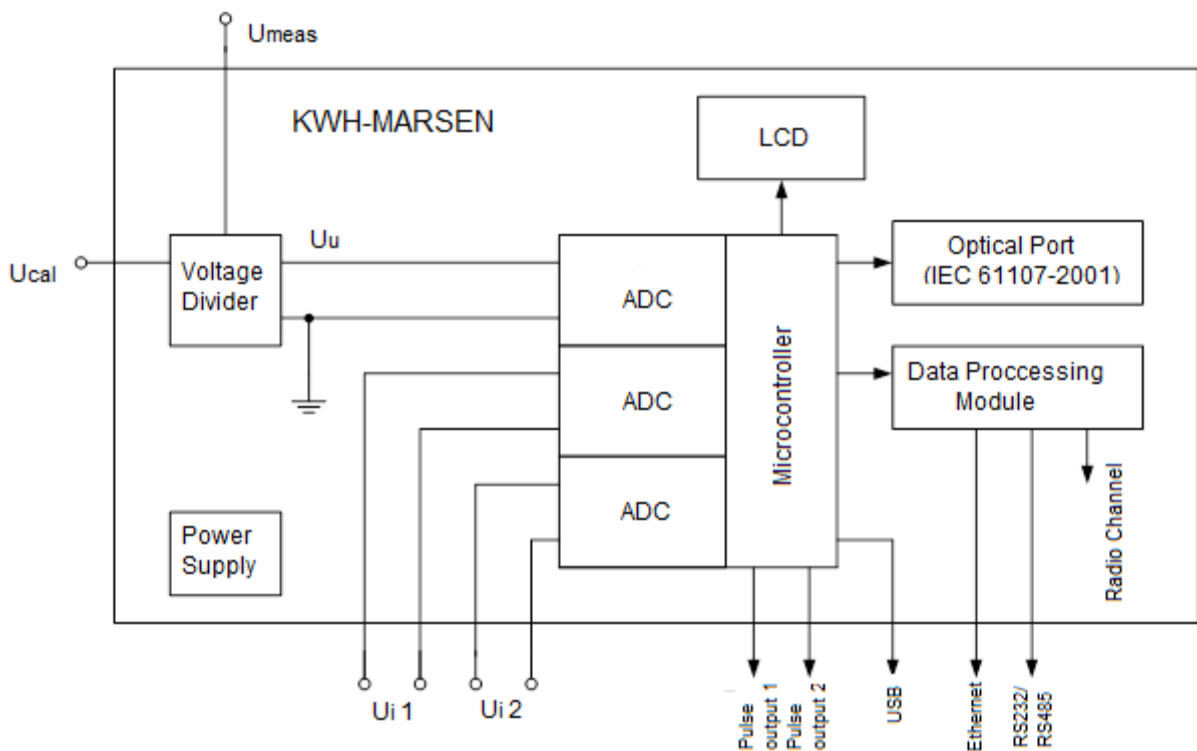

Fig. 4.1 – Block diagram of the meter
4.1 Block diagram is shown in Fig. 4.1.